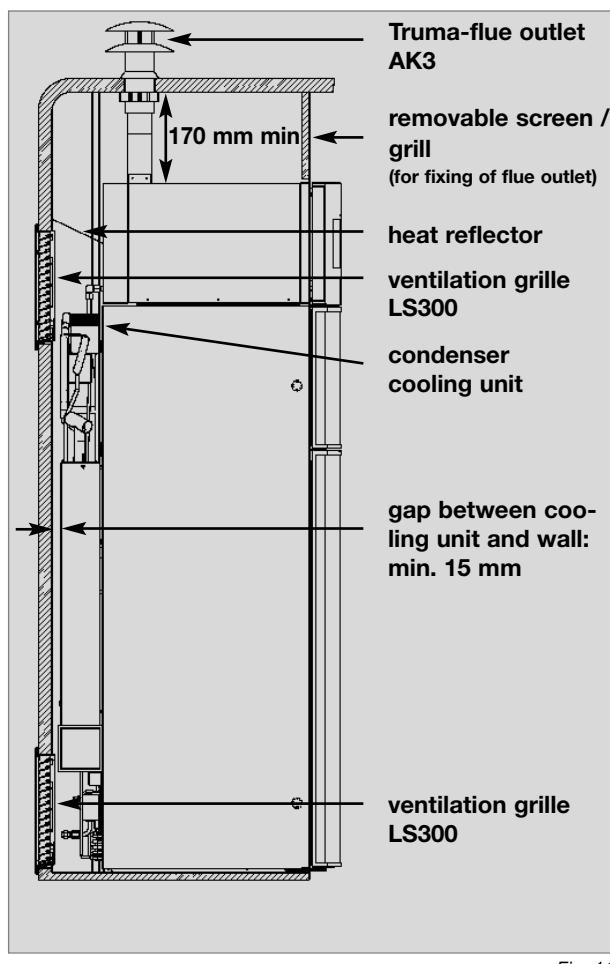
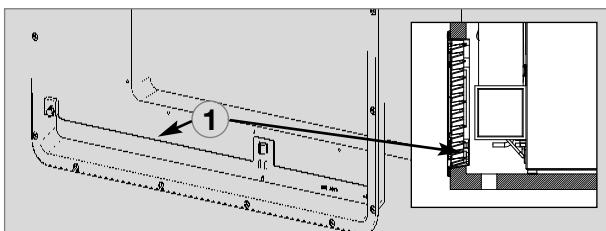

Fig. 11
Fig. 16
Ventilation is provided for the unit by means of two apertures (ventilation grilles) in the caravan wall. Fresh air enters at the bottom, extracts the heat and exits through the upper vent grille (chimney effect). **The upper ventilation grille should be positioned as high as possible above the cooling unit (Fig. 11). Install the lower ventilation grille at floor level of the recess floor (Fig. 16), allowing unburnt gas (heavier than air) to escape directly into the open air. The gas burner must be located above the edge (1) ..**
To install the ventilation grilles, cut two rectangles width **b = 490mm**, height **a= 249mm**, in the outer wall of the vehicle (for position of the cuts, see Fig.11).